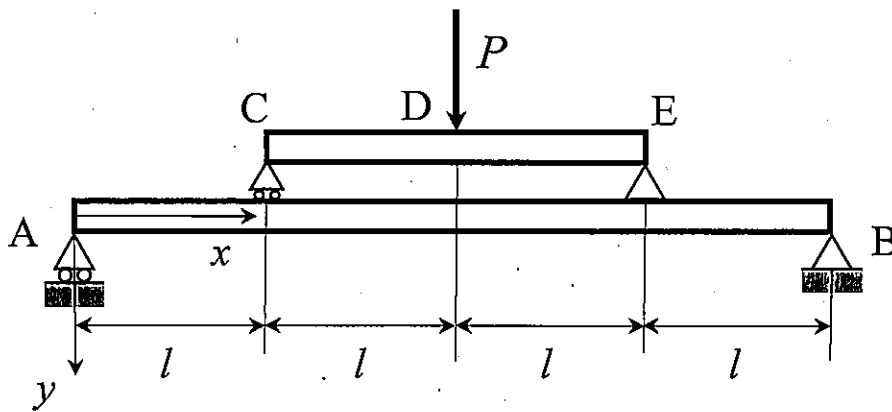

Figure 1-1
I. As shown in Figure 1-1, a beam AB of length  $4l$  is simply supported at the ends and a beam CE of length  $2l$  which is simply supported at the ends resting on the beam AB. A concentrated load  $P$  is applied at the midpoint D of the beam CE. The beams AB and CE have the same flexural rigidity  $EI$ . Answer the following questions.
- (1) Draw the shearing force and bending moment diagrams for the beam CE.
- (2) Draw the shearing force and bending moment diagrams for the beam AB.
- (3) Obtain the vertical displacement of point D.